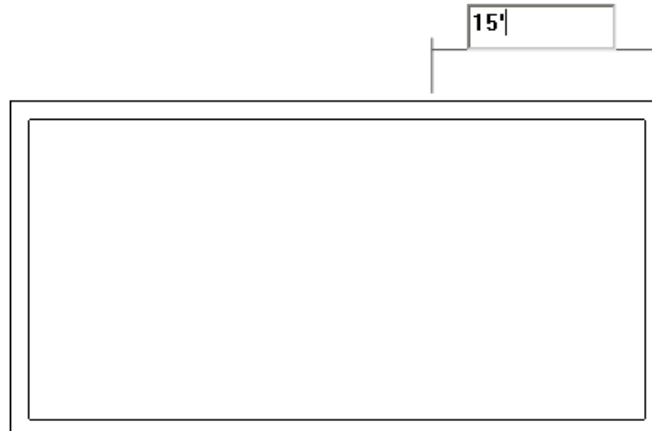

Figure 3-56 Specifying the distance for starting the first interior wall segment
2. Type **15'(4572 mm)** from the keyboard, as shown in Figure 3-56. Now, press ENTER; the starting point of the first interior wall is specified.